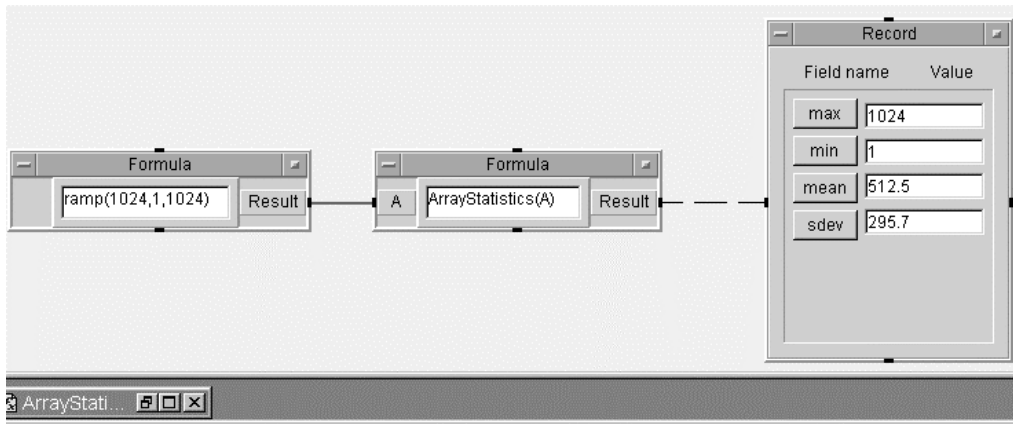

Figure 11.7. Calling the ArrayStatistics UserFunction
29. Run this program. It should look like Figure 11.7.